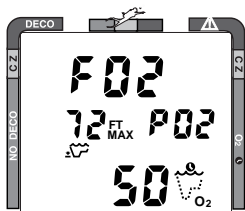

Fig. 47 - FO2 (Default ON)
- If the FO2 Default was set ON, the FO2 value displayed (Fig. 47) will be the 'default value' of 50 (%) and will have to be set for the breathing gas used for the next dive.